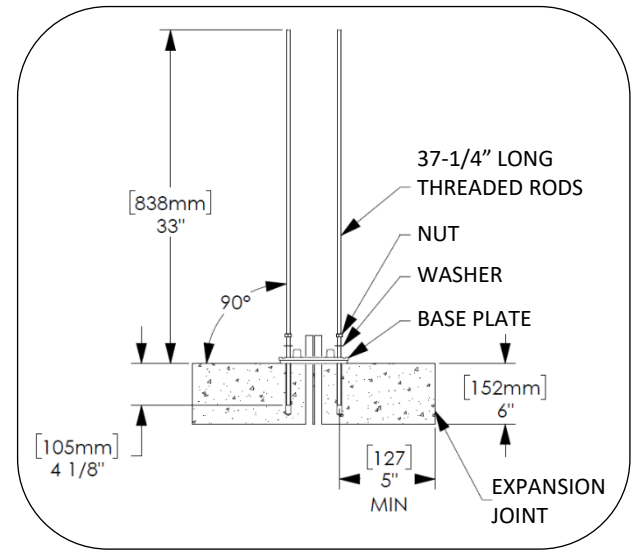

Fig. 3 – install threaded rods – embed mount
4. Drill holes according to adhesive manufacturer's recommendations. When installed, threaded rods should extend 4-1/4" below base plate, see Fig. 3.
6. Place base plate back in position. Install washer, nut and threaded rod as shown in Fig. 3. Verify top of threaded rod to grade distance is 33".